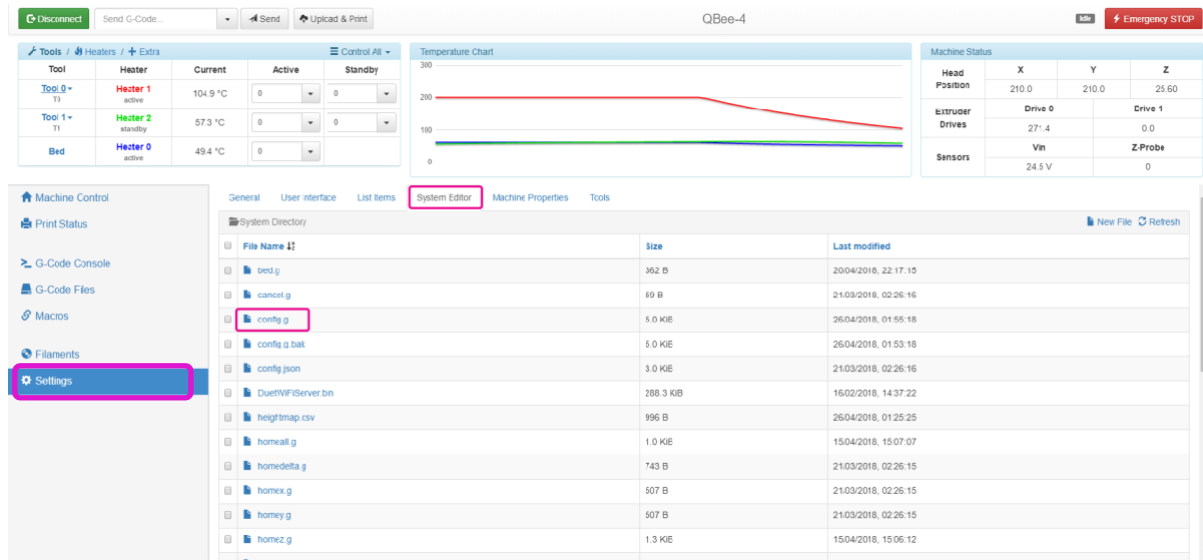

fig.1
- On your Settings tab > System Editor > Config.g (fig.1)